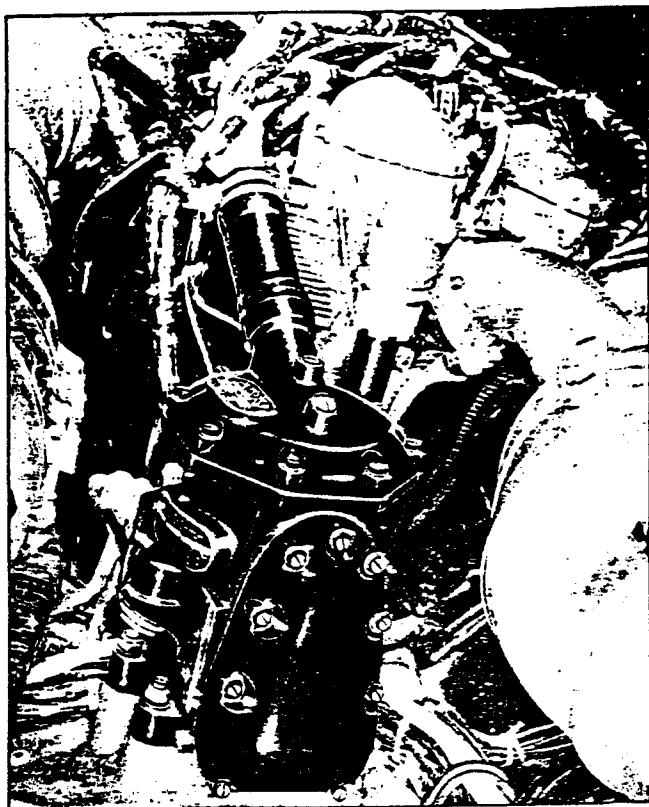

Figure 3. Magneto Installed
b. TROUBLE SHOOTING.- Refer to paragraph 7 (2).
c. MAGNETO. (See figure 3.)
(1) DESCRIPTION.- Each of the seven magnetos is flange mounted on one of the seven pads radiating from the magneto drive case and is of the four pole rotating magnet type. Each magneto has a compensated cam with two tracks of four lobes each, two sets of breaker points, and a distributor rotor with four jump gap pickup and two distributing electrodes. With the exception of the cams, which are timed to the front cylinders of the corresponding banks, all seven magneto units are identical and interchangeable. A coupling of the engine end of each magneto shaft is splined into the outer end of the corresponding magneto drive shaft in the magneto drive case. A ratchet ring between the coupling and magneto shaft provides a vernier adjustment of the shaft when timing the magneto to the engine.
(2) REMOVAL.- Disconnect the special fitting which secures the starting coil and ground wire manifold to the magneto, then remove the ignition manifold and distributor cover assembly. Remove the nuts which secure the magneto to the magneto drive case and lift off the magneto.
(3) DISASSEMBLY.- Field personnel should not attempt to disassemble a magneto further than is necessary to accomplish breaker point cleaning or replacement, and then, only if it is absolutely certain that the trouble has been correctly diagnosed. For this information refer to paragraph 7 (2). Under normal conditions, the wear or the burning of the breaker points is balanced by the wear on the cam follower and, therefore, the spark timing remains approximately at its original setting. If it becomes necessary to clean the points proceed as directed in paragraph 8 c (4), immediately below.
(4) INSPECTION AND CLEANING OF BREAKER POINTS.